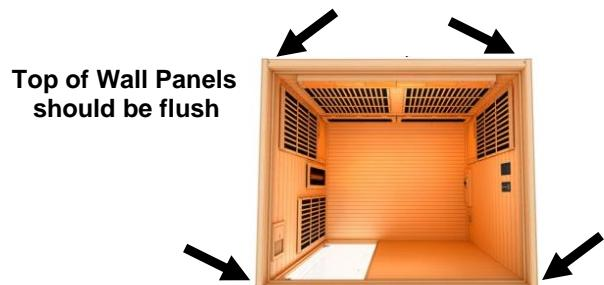

Figure 3
1. Two adults will need to place the REAR WALL PANEL between the LEFT SIDE WALL PANEL and RIGHT SIDE WALL PANEL at the rear of the sauna room. The trim molding of the REAR WALL PANEL will rest on the FLOOR PANEL. Make sure that the tops of the side wall panels are flushed with the REAR WALL PANEL. Use the buckles to latch the wall panels together. (see Figure 3)